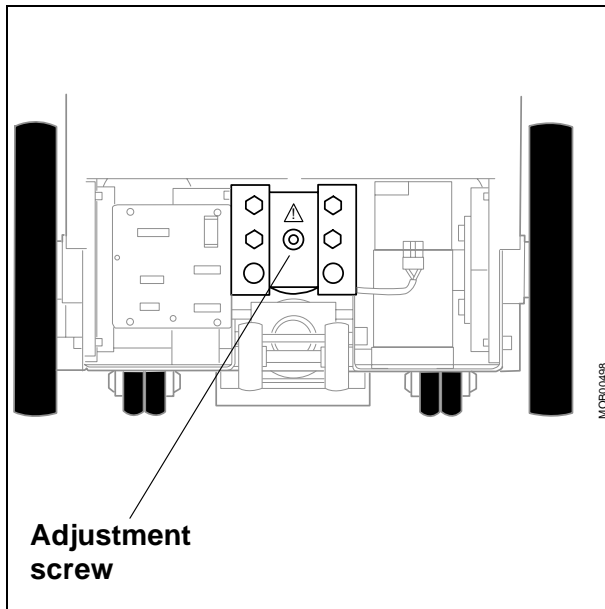

Fig. 29
- Loosen the adjustment screw so that the arm is no longer balanced, however the spring mechanism remains in position (Fig. 29). Do not allow the spring mechanism to fall out.